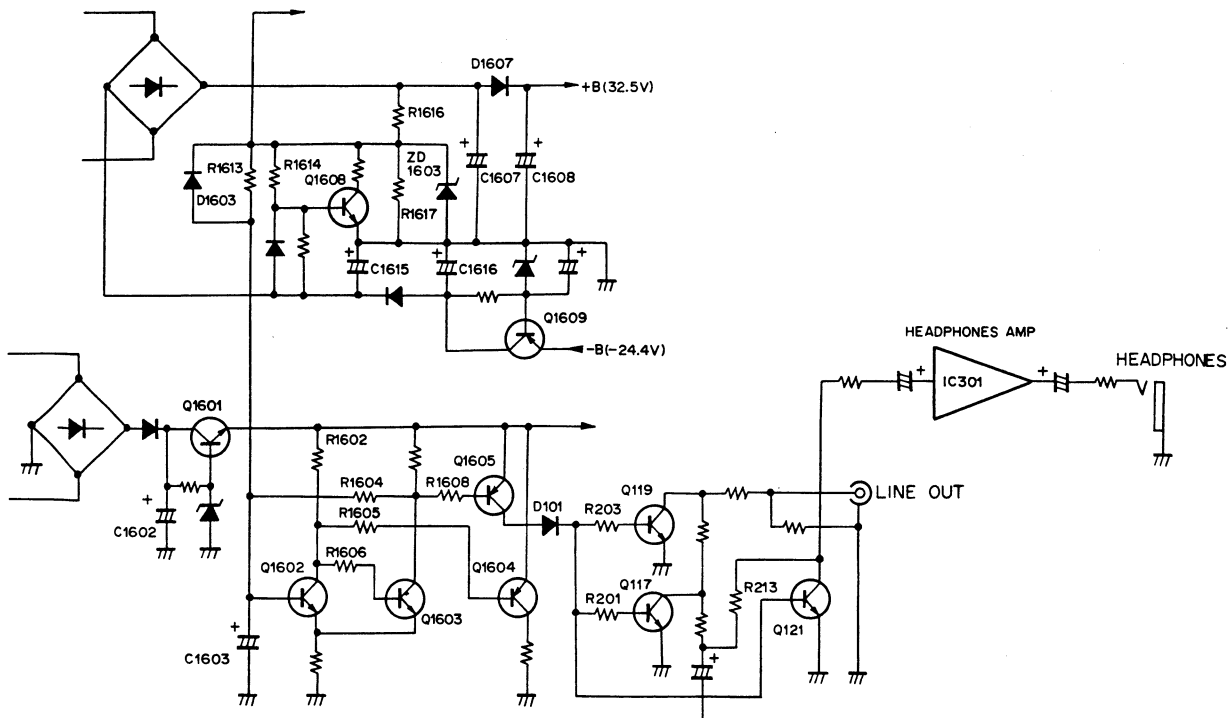

Fig. 6-10 Muting circuit 1
**When Switching The Power On (Fig. 6-10)**
#### When Switching The Power Off (Fig. 6-10)